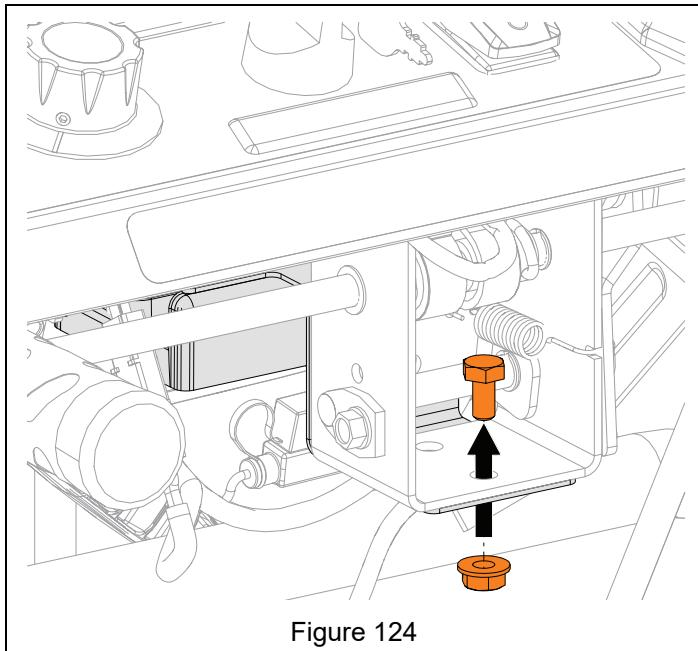

Figure 124
4. Remove hardware retaining ECU and bracket and remove bracket. See Figure 124.